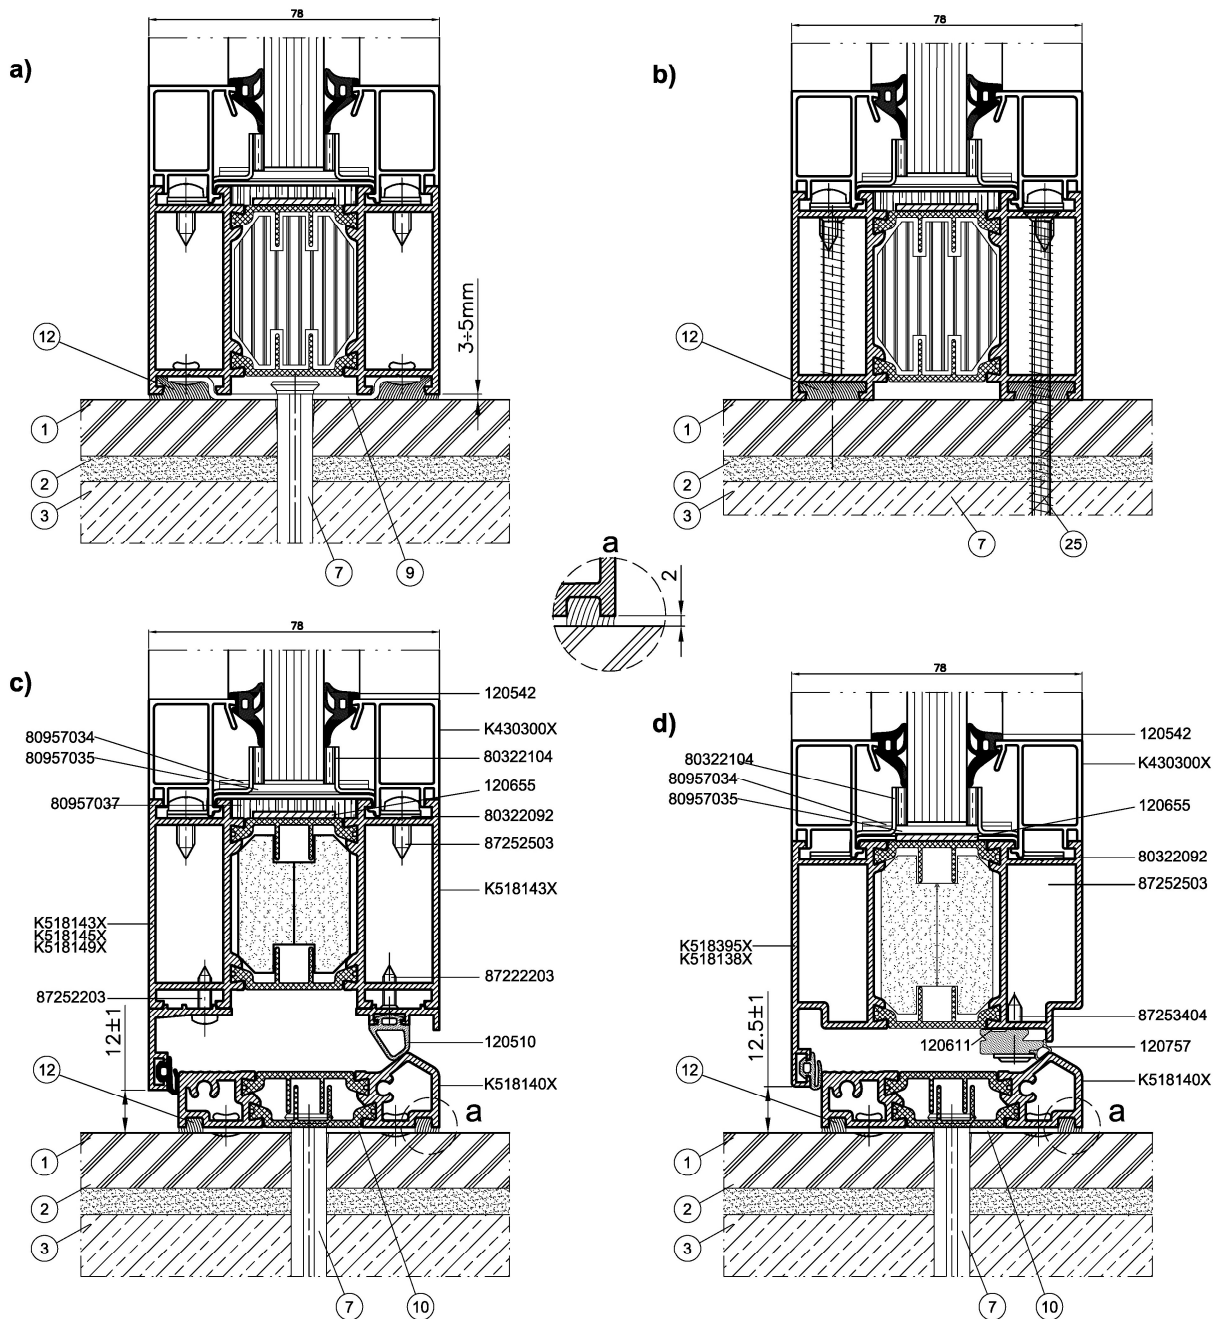
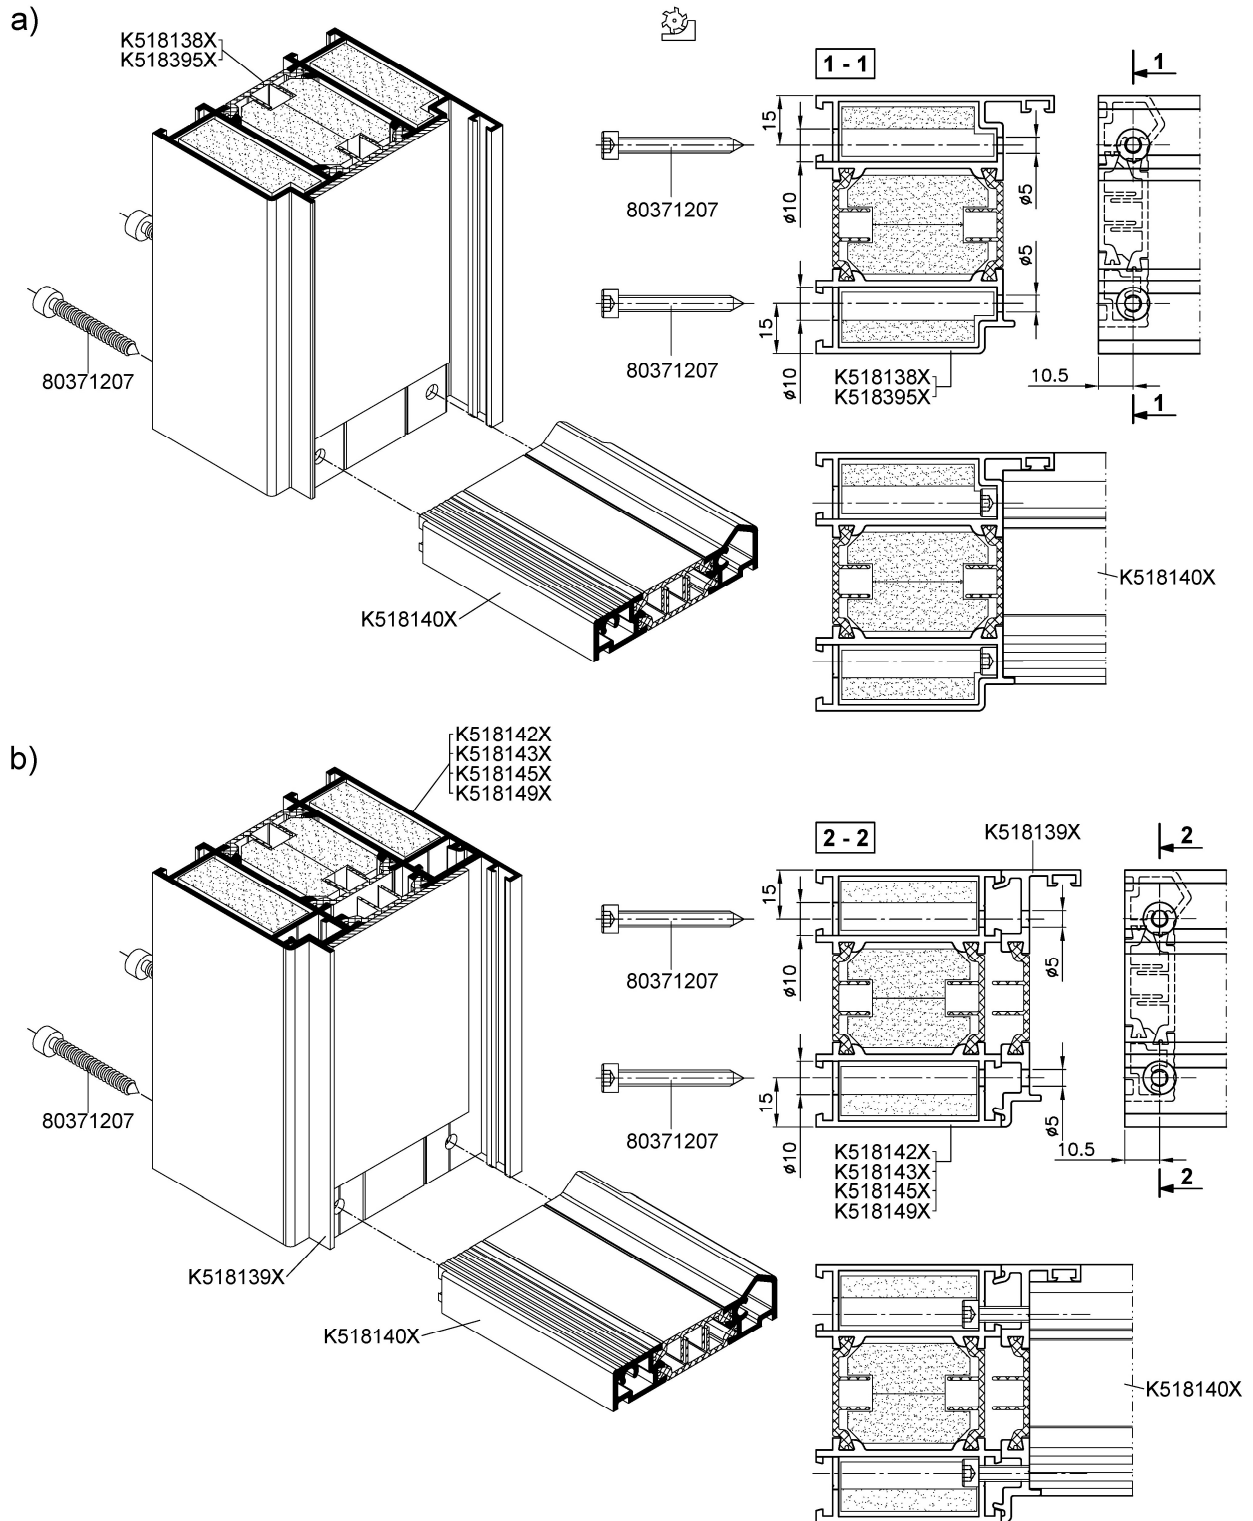

Fig. 28 Clearances of base connection when installing:
Fig. 32 Threshold installation for EI 30 and EI 60 doors:
- 3 – 5 mm – according to Fig. 28 a - when window or wall frame profile is fixed to the floor by means of element 80322073,
- for doors with threshold profile K 518140x, the clearance between the floor and the threshold should not exceed 2 mm in accordance with Fig. 28 c and d.
Fig. 32 shows how to prepare the threshold profile K 518140X and its embedding between door jambs that meet the smoke-control requirement. After attachment to the frame, the threshold should be fixed to the floor with steel anchors or concrete screws as shown in Fig. 28.